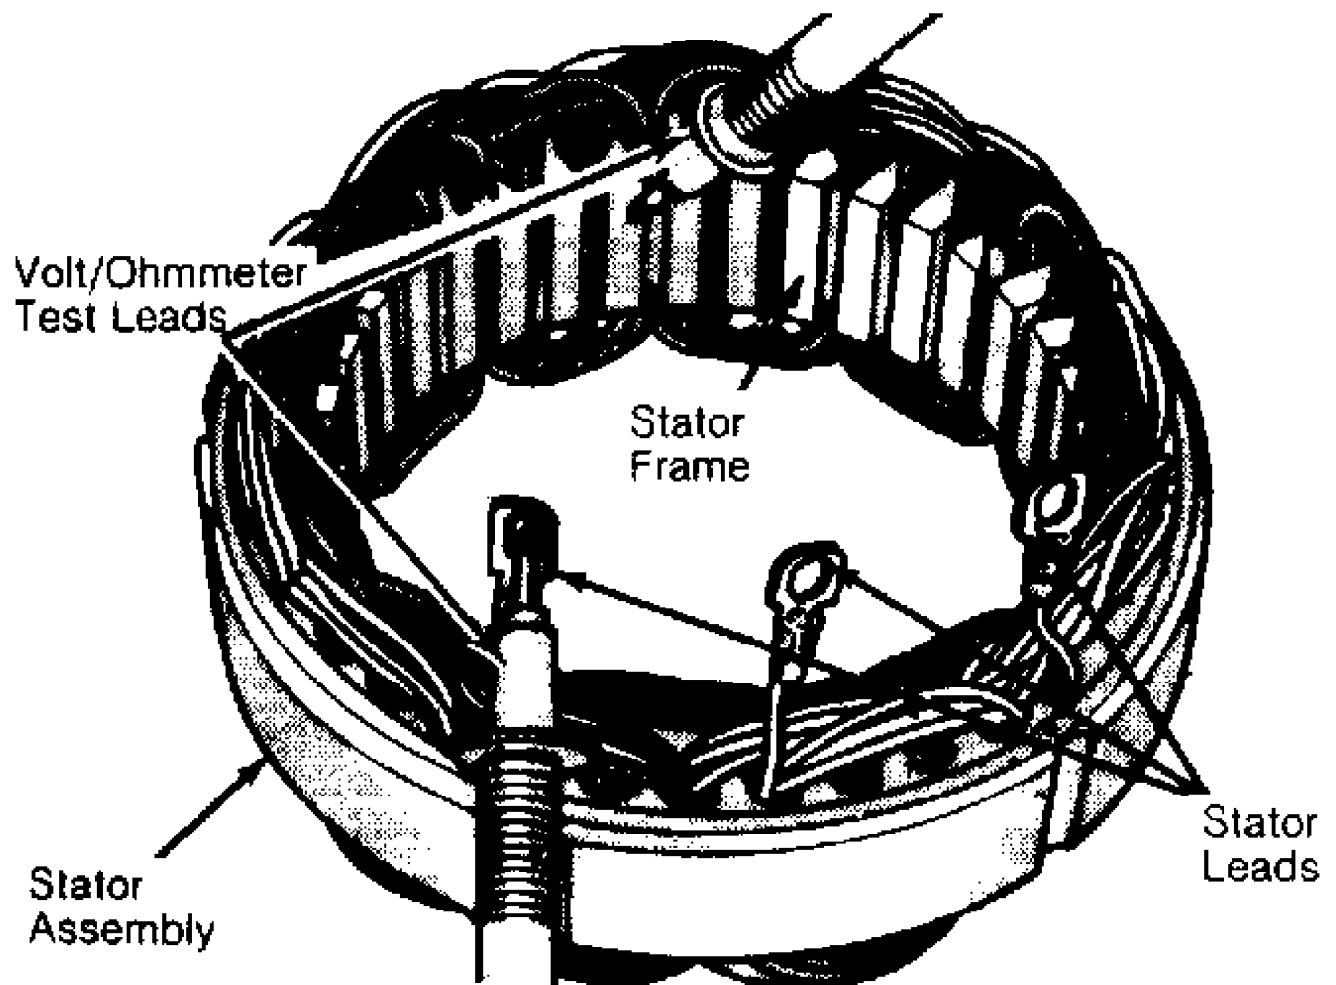

Fig. 12: Testing Stator Coil to Frame
1) Check stator for worn or broken leads, distorted frame, or burned windings. Clean a small area of stator frame for making a good electrical contact. Using a volt/ohmmeter, test for continuity from stator leads to frame. Test should show an open circuit. See Fig. 12.